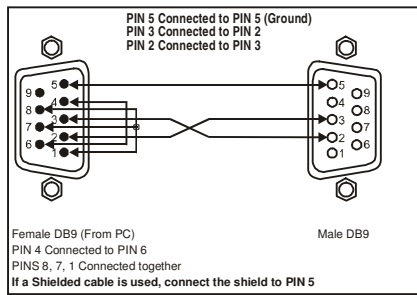

Figure 4: Connecting a PC without using a Null-modem Adapter
- Connect the RS-232 DB9 port on your PC to the RS-232 DB9 rear panel port on the Master **VP-8x8** unit, as Figure 4 illustrates (depending on whether the PC has a 9-pin or 25-pin connector)